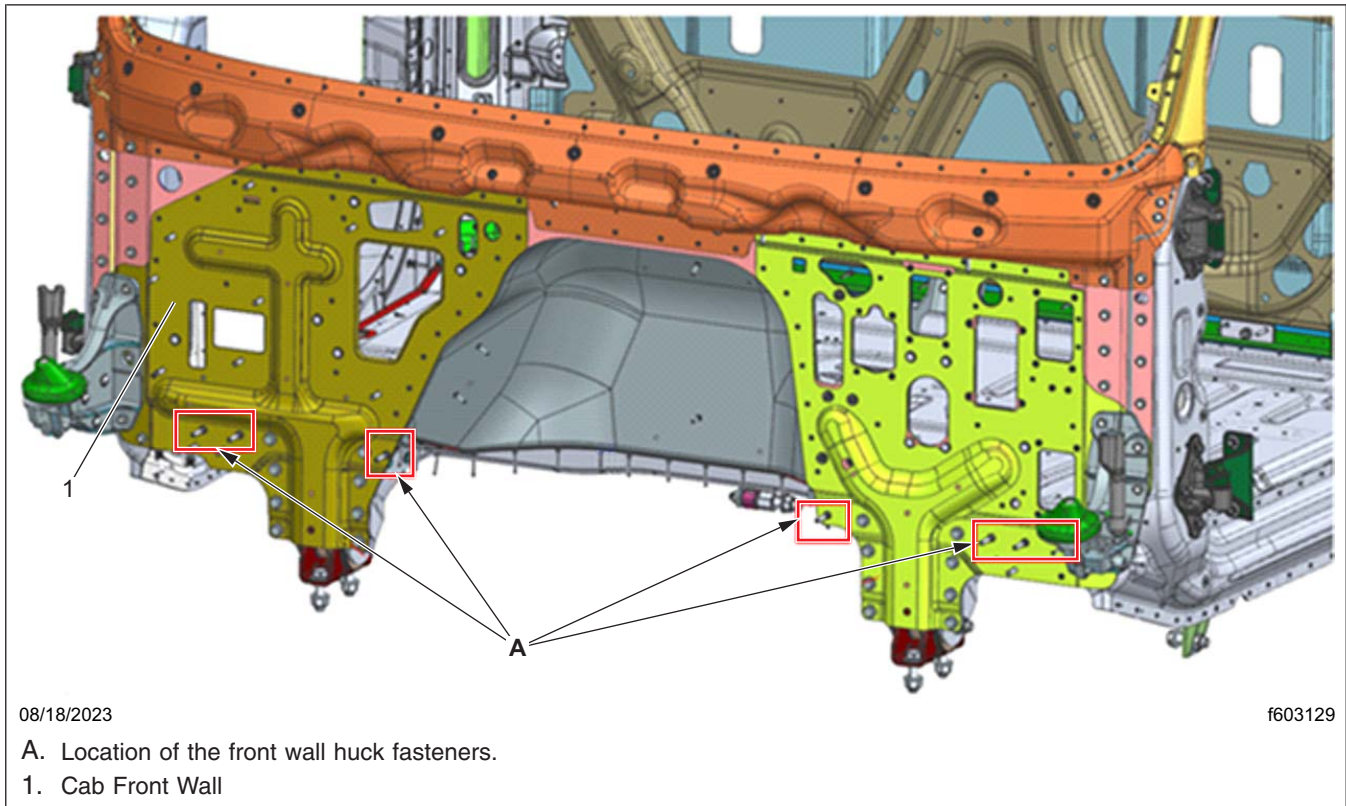

Fig. 1, Location of the Front Wall Huck Fasteners
4. Inspect whether the fasteners are already installed in the front wall or floor toe kick area, as shown in Fig. 1.